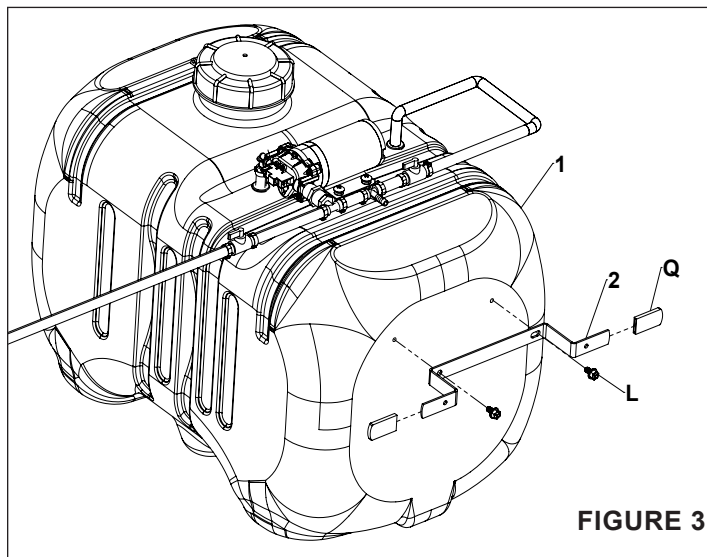

FIGURE 3
## STEP 3: (SEE FIGURE 3)
- Attach the hose wrap bracket (2) to the tank (1) using two 5/16" hex flange bolts (L).
- Install the rubber caps (Q) onto both ends of the hose wrap bracket (2) as shown in Figure 3.